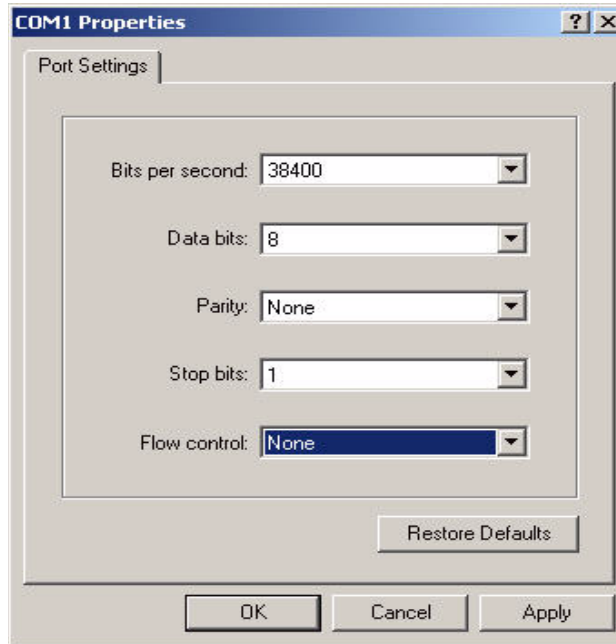

Figure 18. Default SMAC RS-232 Setting
Figure 18 shows the default SMAC RS-232 settings.
1. Connect the boards to their respective ports and select a Com Port using the Device Manager as shown in Section 3.4, “Setting Up the UART/USB Virtual Com Port”. Once the Com Ports are determined, open the Com Port with the settings as shown in Figure 18.